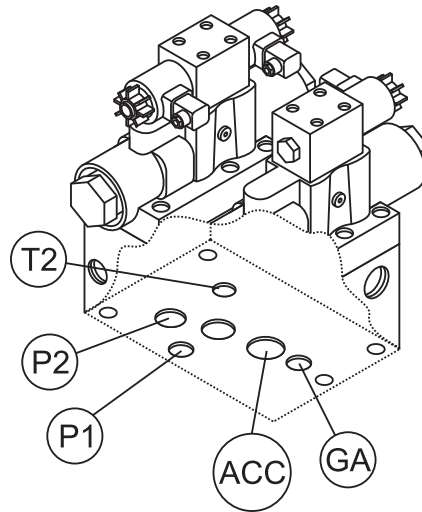

Figure 68. Manifold Block Ports
3. Fill the cone 1/3 full by volume (Figure 68-A) and rod 25 times with a 1/2” dia x 24” lg. bullet-pointed steel rod. (This is a specific requirement which will produce non-standard results unless followed exactly.) Distribute rodding evenly over the entire cross section of the sample.
4. Fill cone another 1/3 (Figure 68-B) which will make the cone 2/3 full by volume. Rod this second layer 25 times with the rod penetrating into, but not through, the first layer. Distribute rodding evenly over the entire cross section of the layer.
5. Fill cone to overflowing (Figure 68-C). Rod this layer 25 times with rod penetrating into but not through, the second layer. Distribute rodding evenly over the entire cross section of this layer.
6. Remove the excess concrete (Figure 68-D) from the top of the cone, using the tamping rod as a screed.
7. Lift the cone vertically (Figure 68-E) with a slow even motion. **DO NOT** jar the concrete or tilt the cone during this process. (Invert the withdrawn cone, and place it next to, but not touching the slumped concrete.
8. Lay a straight edge (Figure 68-F) across the top of the slumped cone. Measure the amount of slump in inches from the bottom of the straight edge to the top of the slumped concrete at a point over the original center of the base. The slump operation must be complete in a maximum elapsed time of 1-1/2 minutes. Discard the concrete. **DO NOT** use it in another tests.